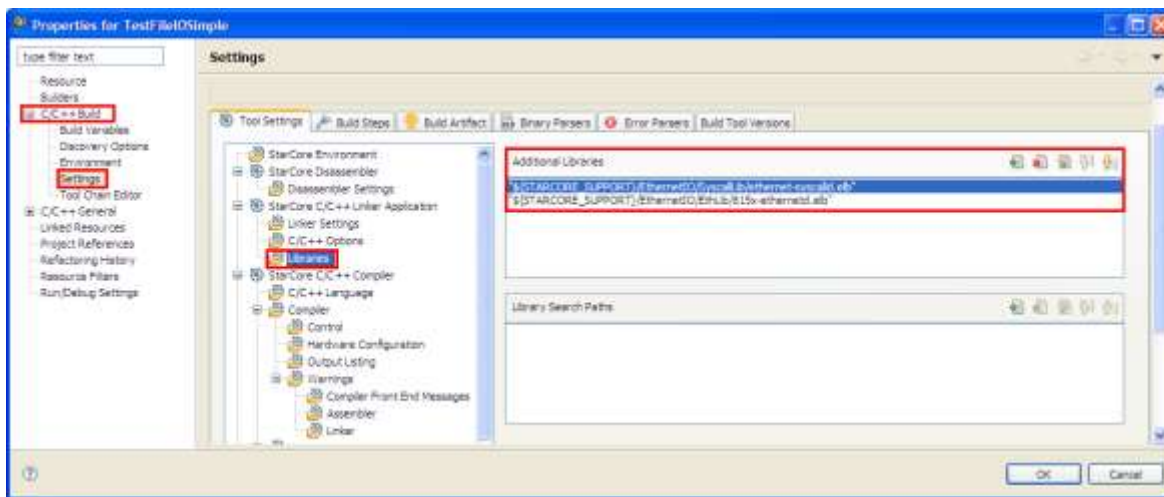

Figure 5. Adding the NetFileIO Libraries to the Project.
3. Open the **Project Properties** window (Figure 5) and under the **Tool Settings** tab add the NetFileIO required libraries described in chapter 3.2.1.